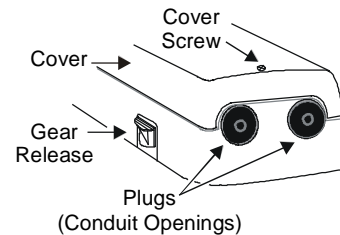

Figure 11: Location of the Conduit Openings
- Push the plastic conduit plug out of the conduit opening with fingertip. (See Figure 11.)